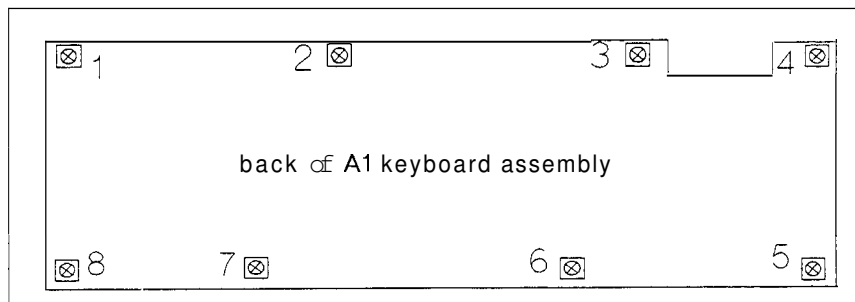

Figure 5-8. A1 keyboard and frontpanel separation
1. Remove the eight screws detailed in Figure 5-8 and separate the A1 assembly and the front panel to gain access to the A1 keyboard assembly components.
4. Replace and tighten the A1 assembly securing screws. See figure 5-8.